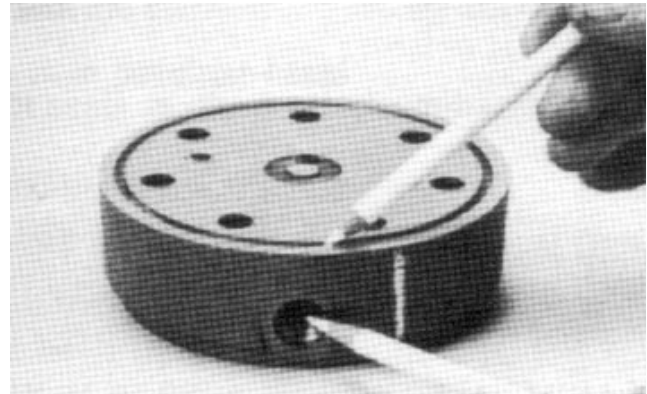

Figure 34
2. Thoroughly wash end cover (24) in proper solvent and blow dry. Make sure the end cover valve apertures are free of contamination. Inspect end cover for cracks and the bolt head recesses for good bolt head sealing surfaces. Replace end cover as necessary (Fig. 34).
3. Inspect commutator ring (23) for cracks and burrs. Replace commutator ring as necessary.
4. Inspect commutator (16) for cracks, burrs, wear, scoring, chipping, and peening. **If any of these conditions exist, replace commutator and commutator ring (23) as a matched set.**
5. Inspect manifold (22) for cracks, surface scoring, peening, chipping. Replace manifold if any of these conditions exist. A polished pattern on the ground surface from commutator or rotor rotation is normal.
**Note:** The rotor set consists of the rotor (19), vanes (20), and stator (21). Rotor set components may become disassembled during service procedures.